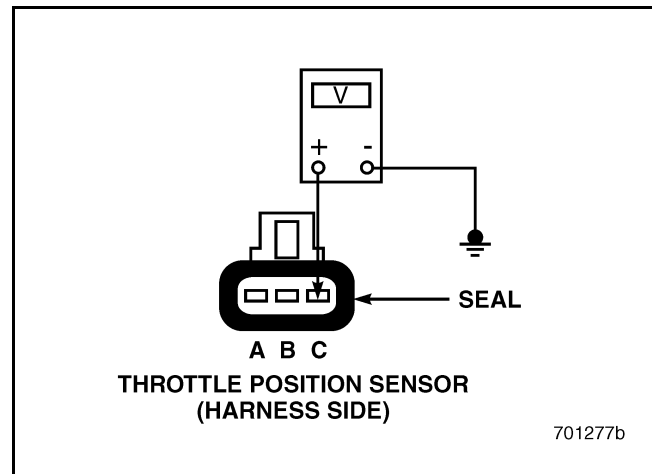

Figure 549
2. Disconnect the Throttle Position (TP) Sensor harness connector.
4. Measure the voltage between TP Sensor harness connector pin C and a good ground (see Figure 549).